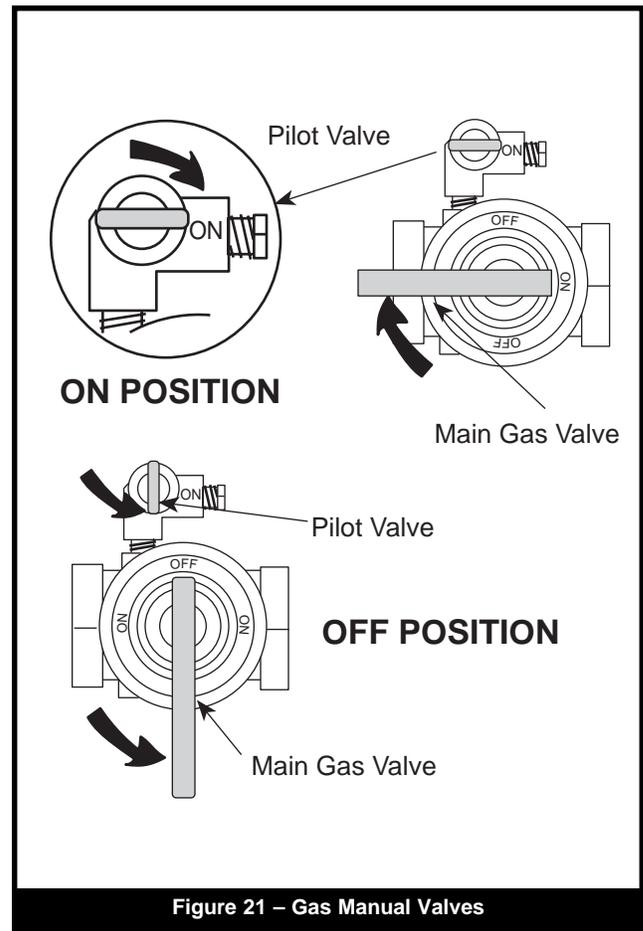

Figure 21 – Gas Manual Valves
- b. Turn off all manual gas valves and wait five minutes. (**Figure 21**)